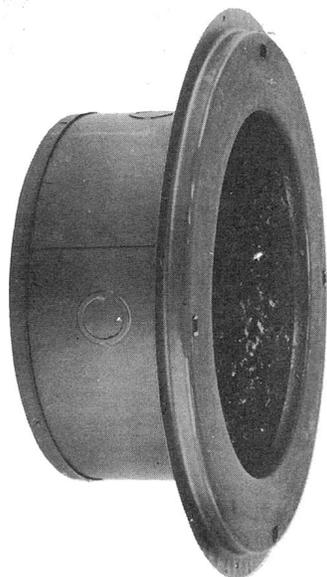

Figure 39 - Lowell CP8 Loudspeaker Enclosure
3.62 The Lowell CP8 enclosure is shown in Figure 39. This unit is permanently attached to the conduit system or building by the contractor performing this work. It is available in depths ranging from 2-1/2" to 12", and in general the deepest model should be used that will fit into the available wall or ceiling space. The correct depth should be specified when ordering the enclosure, and the incremental sizes are listed in the supplies Section C70.900.03.